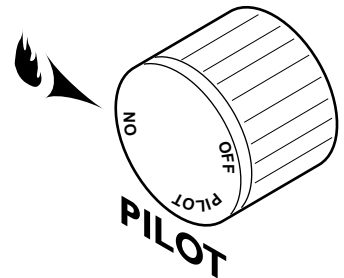

Figure 49 - On Position
Depress and turn the knob counterclockwise  to the “ON” position. See Figure 49. It will take less than four (4) seconds for the burner to ignite.